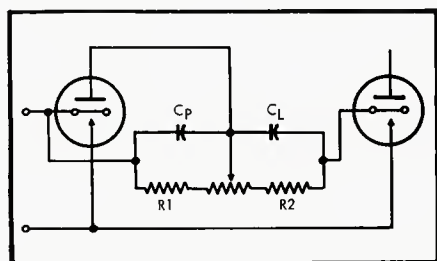
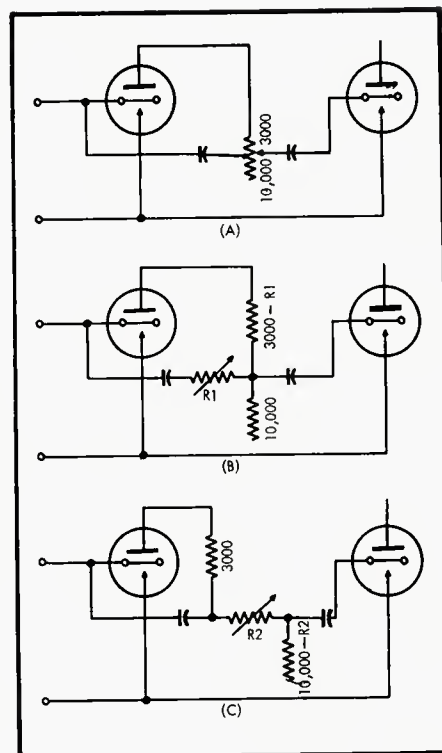

Fig. 6. Basic circuit for the bass control.
Fig. 7. (A) Treble control circuit. (B) Equivalent for (A) under treble-boost conditions. (C) Equivalent under treble attenuate conditions.
For bass control, the ends of a potentiometer are connected as shown in Fig. 6, with the slider connected to the collector. As the slider is moved to the right,  $Z_F$  remains capacitive and rising as the frequency is lowered, while  $Z_L$  becomes resistive and therefore constant with frequency. Thus, according to Eq. (1), the bass signals are increased relative to midband signals. Conversely, as the slider is moved to the left, the denominator of Eq. (1) increases while the numerator remains constant as the frequency is lowered, thereby producing bass attenuation. In each case, as the resistance is varied, the turnover frequency, or frequency at which the response departs from its midband value, varies, thereby producing the desired variable turnover characteristics. The resistors  $R_1$  and  $R_2$  limit the maximum bass turnover frequency to a suitable design value, such as 800 cps.
$Z_F$  for treble boost, or with  $Z_L$  for treble attenuate, as may be seen easily by inspection of Eq. (1). For the case of treble boost,  $Z_F$  will comprise the series combination of the fixed feedback capacitor and the series resistance. The turnover frequency will be given by equating this resistance to the reactance of the feedback capacitor. Treble attenuation is obtained by removing the resistance in series with the feedback capacitor and inserting resistance in series with the load capacitor. The turnover for treble attenuation is the frequency at which the inserted resistance equals the reactance of the load capacitor. The series resistance must appear only in one divider arm at a time in order to secure variable turnover characteristics. The arrangement shown at (A) in Fig. 7 using a tapped potentiometer performs this function. As the slider is moved upward, series resistance appears in the feedback lead, but not in the load circuit as shown at (B) in Fig. 7, thereby giving treble boost; conversely, as the slider is moved below the fixed tap, series resistance appears in the load circuit but not in the feedback circuit as indicated at (C) of Fig. 7. The resistance of the potentiometer between the collector and the current division point is negligible compared with the output impedance of the transistor collector, and may be ignored. The combination of the circuits of Figs. 6 and 7 gives the configuration shown in the second stage of Fig. 2.
The choice of a bass-control potentiometer would be as simple as that of the treble control if we had a potentiometer which shunted only one capacitor at a time. If, for example, bass boost is desired, a resistance should be placed in shunt with the load capacitor  $C_L$ , and the resistance shunting the feedback capacitor should be negligibly high. If a potentiometer is connected as shown in Fig. 6, the resistance is not removed from its position shunting the feedback capacitor, so that at some very low frequency, the presence of this resistance will cause the response to return from its rising characteristic (as frequency is decreased) to a flat characteristic. Hence, a certain amount of bucking of the boost and attenuate portions of the bass control exists. This may be viewed in another way which may be enlightening. The current divider at the collector of the transistor is essentially a capacitive divider at midfrequencies. At extremely low frequencies, the reactance of both capacitors becomes very high so that we have essentially a resistive divider made up of the resistances of the potentiometer on either side of the slider. The response will therefore be controlled by the capacitive divider